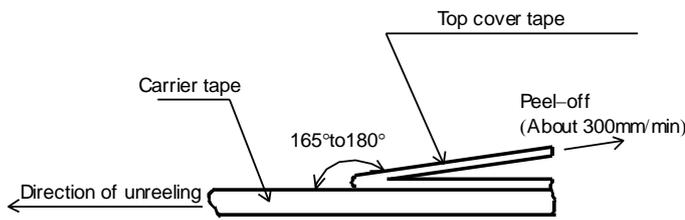
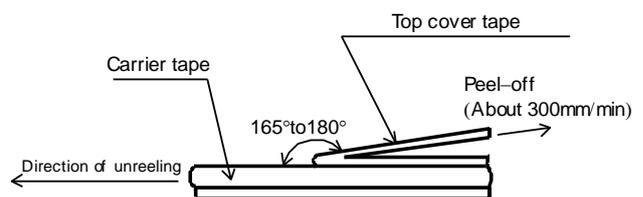

Figure-8
Figure-9
- 5). The peel strength of the top cover tape shall be with in 0.1N to 0.5N on the test method as shown in the following RCC 10: Figure-8, RCC16,20,32: Figure-9.